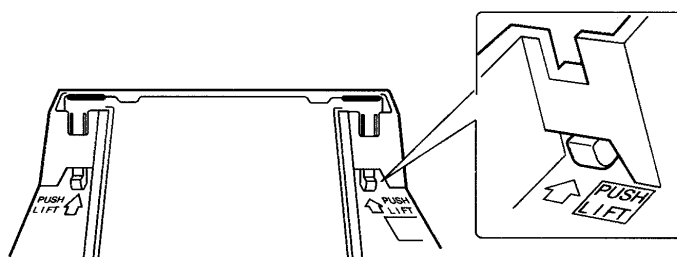

Figure 6-31: Raising the Base Plate
2. Turn the terminal upside down. Push the tabs indicated in *Figure 6-31: Raising the Base Plate*, and raise the inner area of the base plate.